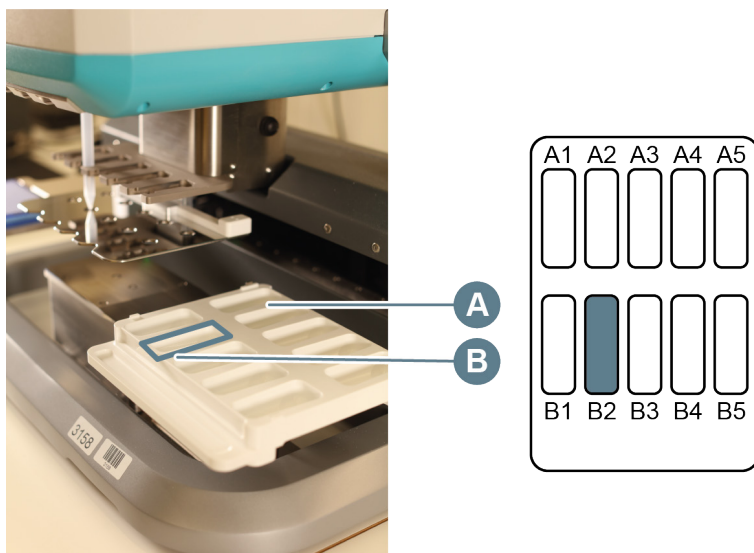

Figure 42. Disposable reservoir in reservoir tray of the Dragonfly.
2. Slide the reservoir tray to the filling position (A) and place a new reservoir in position B2 (B) (*Figure 42*).